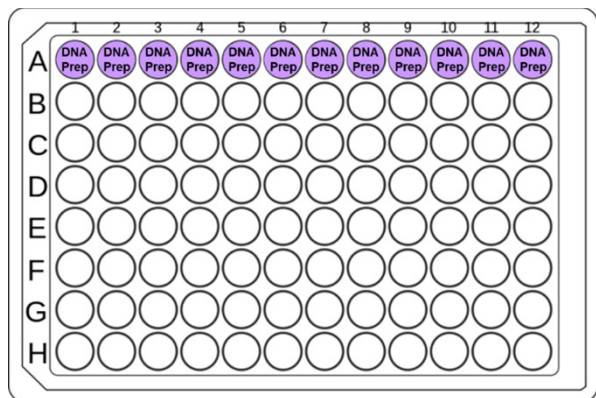

Figure 20: DNA Prep Mix in Library Prep Master Mix Plate.
- Using a single-channel pipette, aliquot the **DNA Prep Master Mix** evenly across all 12 wells of ROW A of the 96-well **Library Prep Master Mix plate** (Figure 20). Seal the plate and briefly spin to collect all liquid in the bottom of the wells and place on ice. Ensure there are no bubbles present in the bottom of the wells.